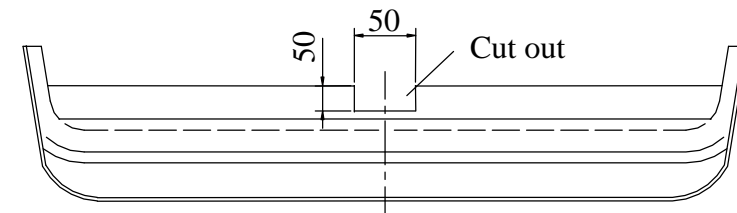

Fig. 2
4. Position the main bar of the towing hitch (pos. 1) to the trunk and fix it with the bracket (pos. 5) through the holes (pos. A) using bolts M10x35mm (pos. 9).
5. Position the sleeves L=58mm (pos. 6) at the bottom of the car, and then fix it through the holes (pos. B) using bolts M10x90mm (pos. 8) and large washers (pos. 10).
6. From the trunk side drill holes $\phi 1$ mm through the towing hitch holes (pos. C) and fix it using bolts M10x35mm (pos. 9) and large washers (pos. 10).
7. Cut the bumper according to fig. 2 and then reassemble it.